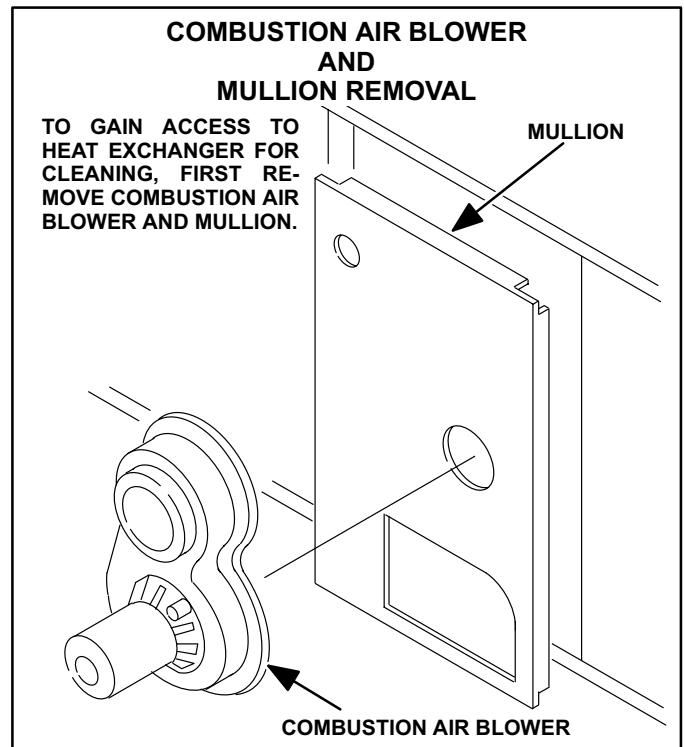

FIGURE 19
- 6 - Remove differential pressure switch and combustion air blower (figure 19).